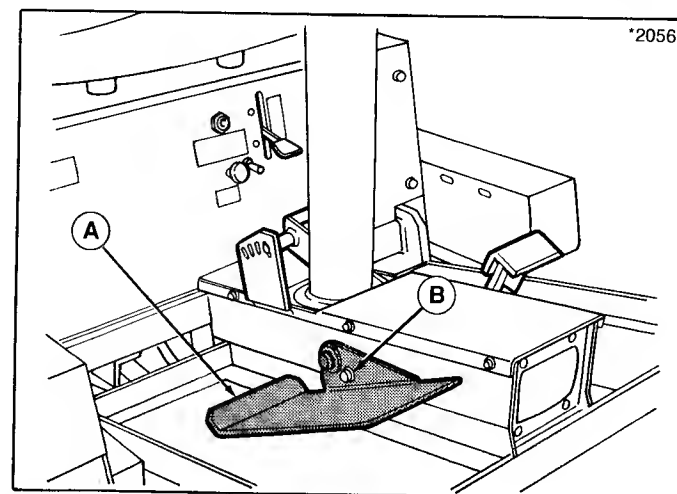

Figure 19.
The position and angle of the foot pedal (A, figure 19) can be adjusted by loosening taptite screw (B) and moving pedal in slot. This adjustment should not affect rider speed or neutral adjustment.